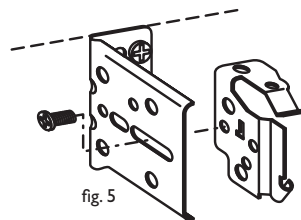

fig. 5
6. Reassemble the rail end bracket, ensure that the small screw is securely fixed (Fig. 5).